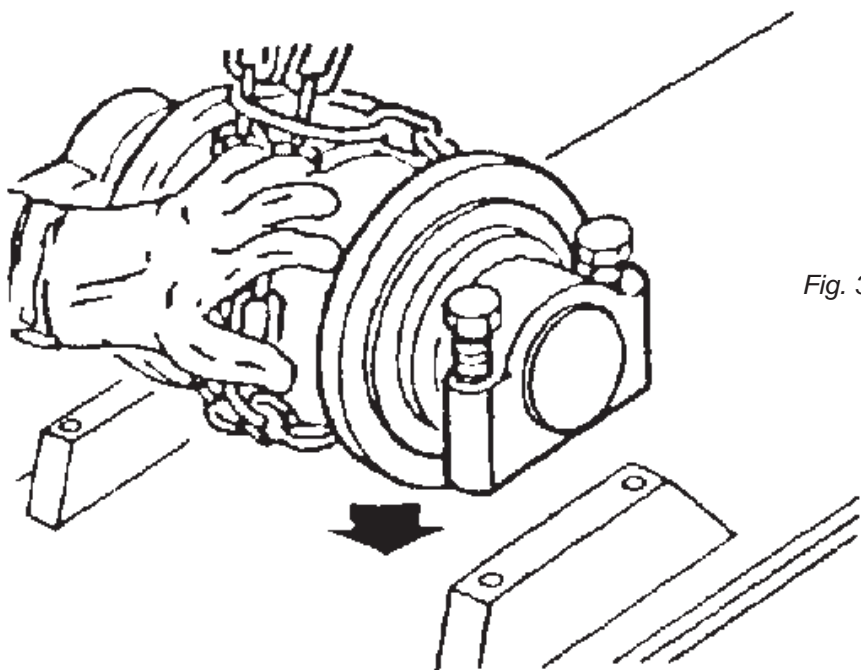

Fig. 3-90 Support Roller - install
7. Install support roller on track frame (fig. 3-90). Torque capscrews according to "Metric Bolt Torque Specifications" in this section.